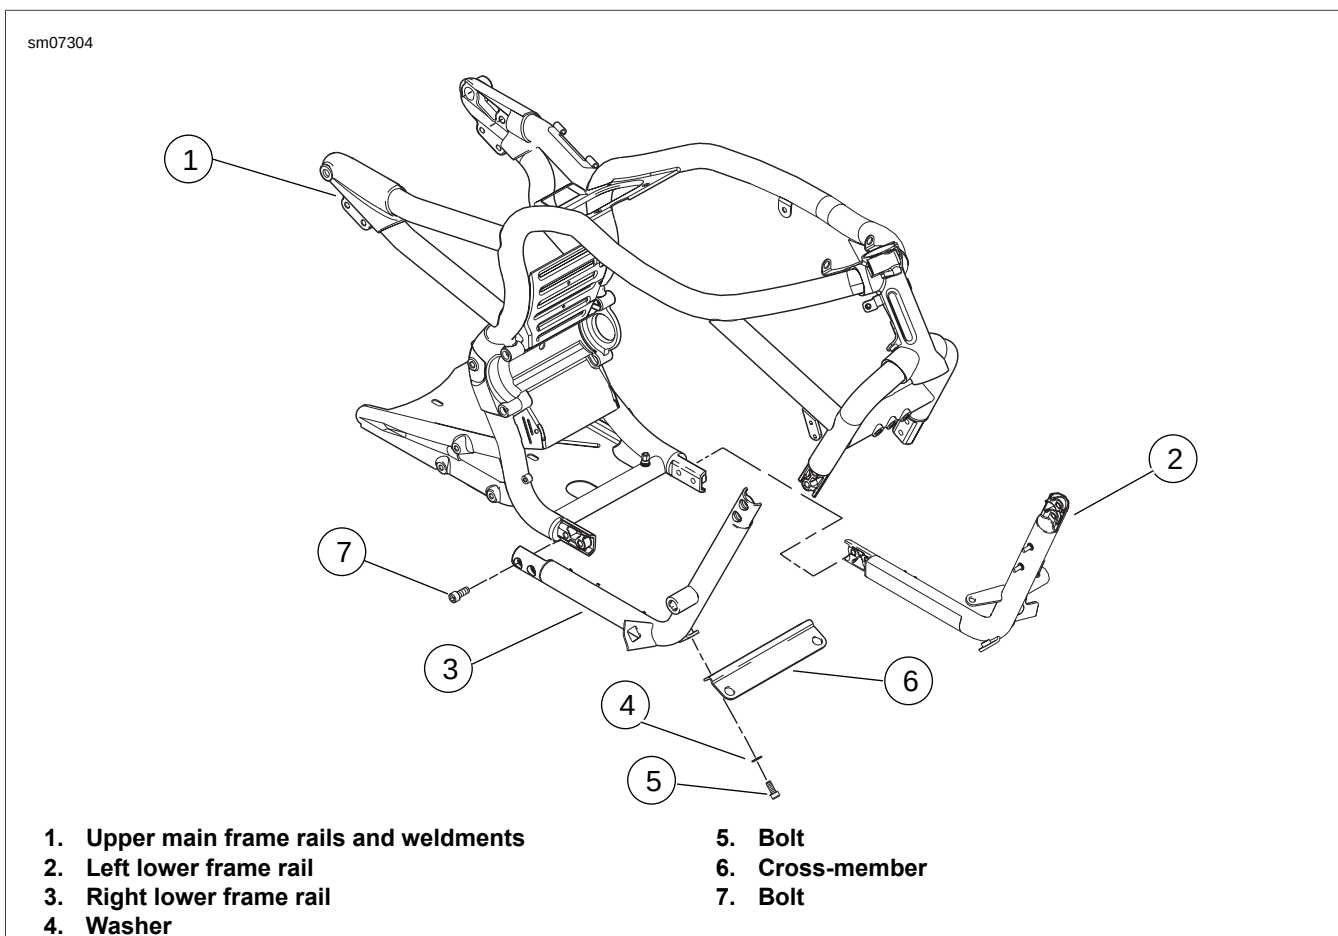

Figure 2-3. Steel Perimeter Frame and Bolt-on Lower Frame Rails
5. See Figure 2-3. Remove two cross member bolts (5) and washers (4) and remove cross member. See 5.10 RADIATOR AND OIL COOLER.
1. See Figure 2-3. Install left and right lower frame rails (2, 3) and finger tighten mounting bolts (7).
4. Install cross member mounting bolts (5) and washers (4). Tighten to 20-26 Nm (15-19 ft-lbs). See 5.10 RADIATOR AND OIL COOLER.
5. Tighten lower frame rail bolts (7) to 61-75 Nm (45-55 ft-lbs). Loosen bolts 90 degrees and retighten to 61-75 Nm (45-55 ft-lbs).